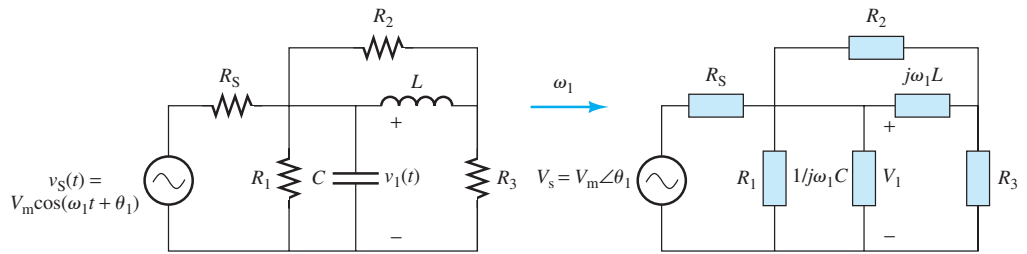

FIGURE 6.25 Circuit for Example 6.18.
1. Set $i_s(t)$ to zero and obtain the response $v_1(t)$ to $v_s(t)$. The corresponding circuit is illustrated in Figure 6.25.